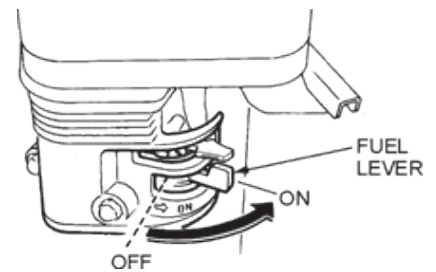

FIGURE 6
9.1 Place the engine fuel valve lever (Figure 6) to the "ON" position.